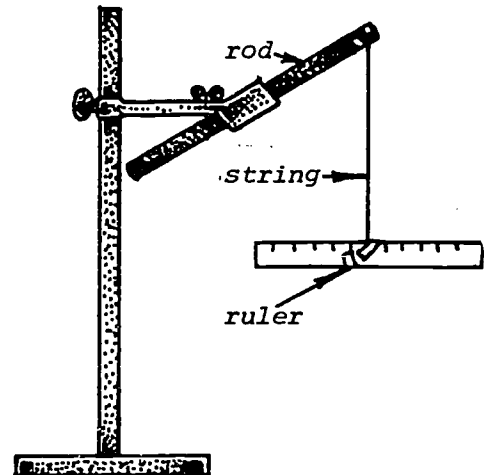

FIGURE 1:
1. Suspend a plastic ruler from the rod as shown in Figure 1. Use tape to attach the string to the rod and ruler. The ruler should be balanced so that it hangs freely and can spin around without touching anything.
4. Neutralize the suspended ruler by touching it with your hands. Speculate on the reason that touching the ruler eliminates the excess charge. (1)